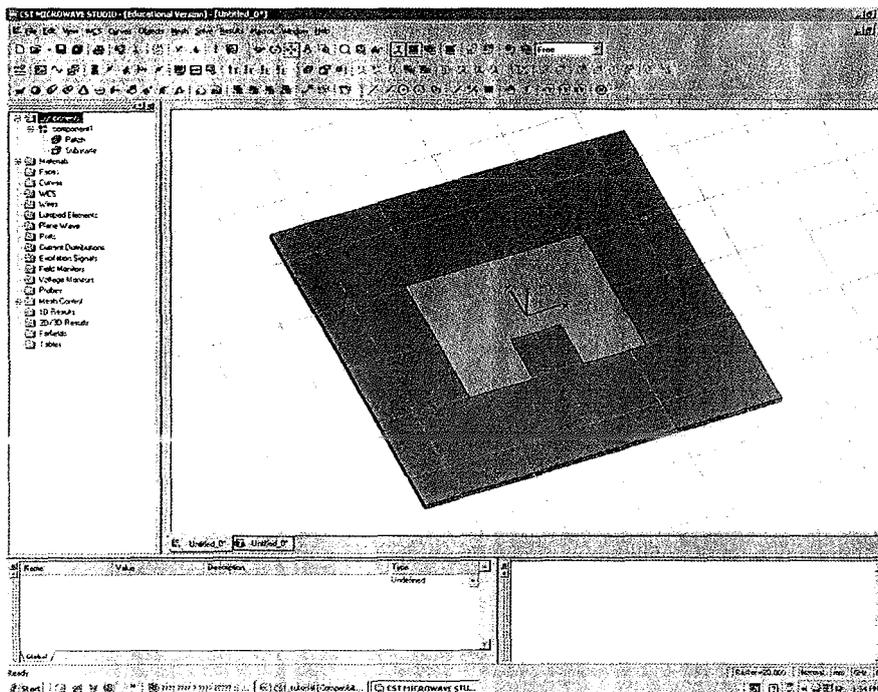

Fig. 14 Cutting the inset feed slot from the patch (e)
- e. You should now see something looks like Fig.14